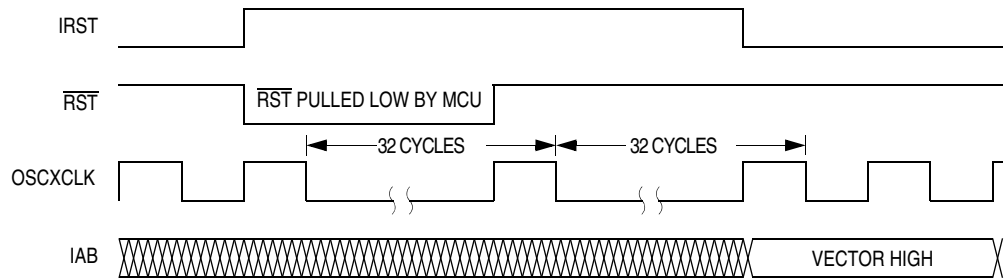
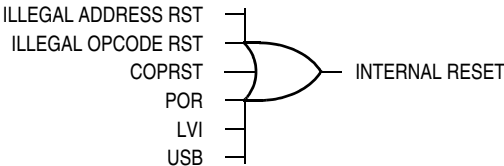

**Figure 8-5. Internal Reset Timing**
**Figure 8-6. Sources of Internal Reset**
All internal reset sources actively pull the  $\overline{RST}$  pin low for 32 OSCXCLK cycles to allow resetting of external peripherals. The internal reset signal IRST continues to be asserted for an additional 32 cycles. (See Figure 8-5.) An internal reset can be caused by an illegal address, illegal opcode, COP timeout, LVI, the USB module or POR. (See Figure 8-6 . Sources of Internal Reset.)
**NOTE:** For LVI or POR resets, the SIM cycles through 4096 OSCXCLK cycles during which the SIM forces the  $\overline{RST}$  pin low. The internal reset signal then follows the sequence from the falling edge of  $\overline{RST}$  shown in Figure 8-5.